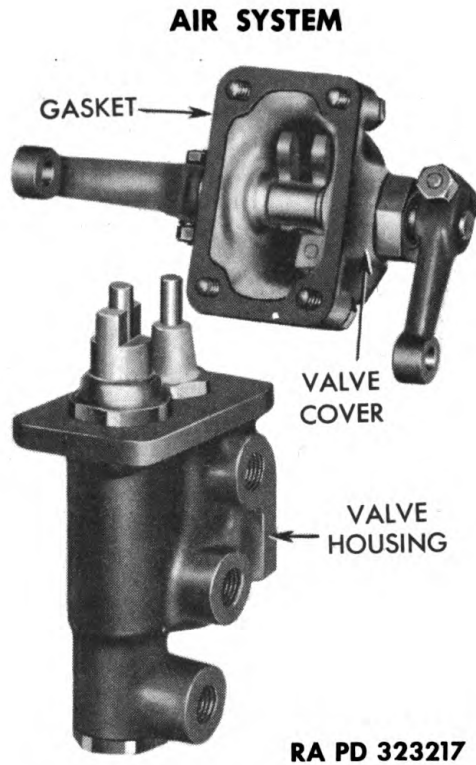

Figure 223 — Cover Removed from Valve Housing
(1) **REMOVE VALVE COVER FROM VALVE HOUSING** (fig. 223). Remove four cap screws and lock washers attaching cover to housing, and remove cover and gasket.
(7) **INSTALL COVER TO HOUSING** (fig. 223). Place gasket and cover on top of valve housing, and secure with four cap screws and lock washers. **NOTE:** *It is necessary to adjust valve before installing cover plug with gasket.*